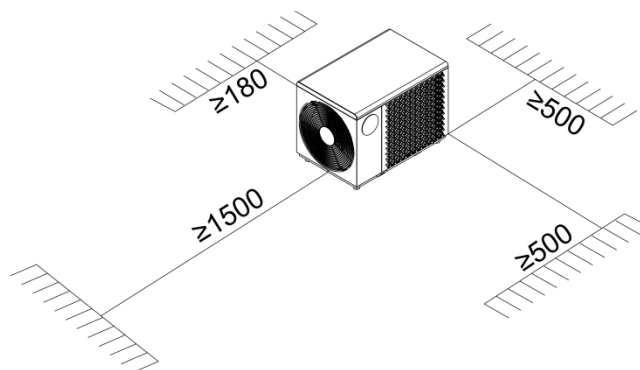

Figure 3.3-7 Installation Space (Unit: mm)
- There should be no obstacles within the distance shown in figure 3.3-7.